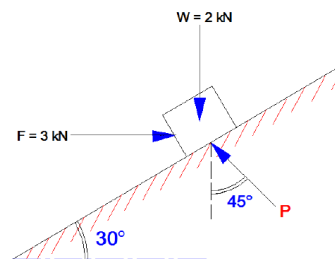

Figure: 1
- 3** The block shown in Figure 1 is acted upon by its weight W, a horizontal force F, and the pressure P exerted by the inclined plane. The resultant R of these forces is parallel to the inclined plane. Determine P and R. Does the block move up or down the incline? 10M